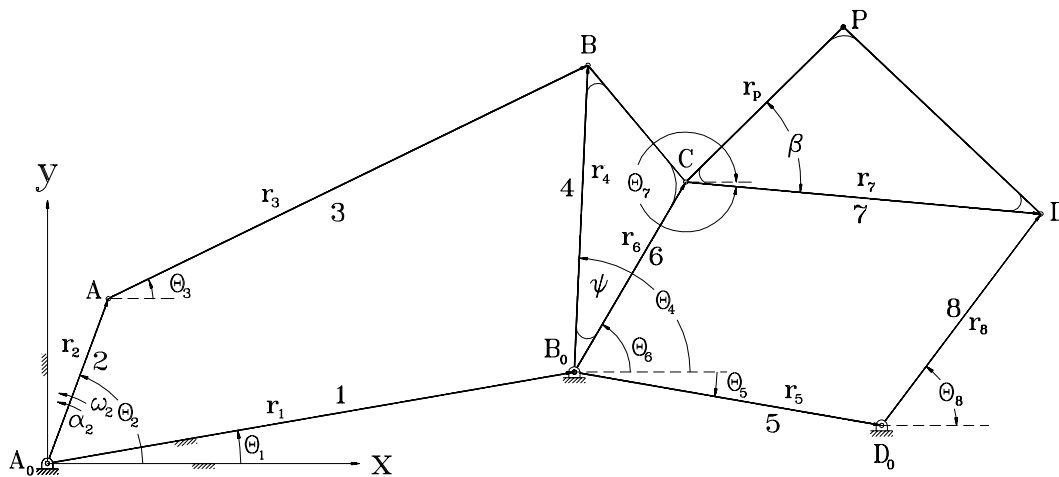

Figure 5.14: Watt (II) Sixbar Linkage
5.3 Watt Six-bar (II) Linkage
A Watt (II) sixbar linkage is from two fourbar mechanisms where the output link of the first fourbar is also the input link of the second fourbar linkage. For the Watt (II) linkage in Figure 5.14, note that there is also a coupler point located on the floating link of the second fourbar linkage.
Problem 2: For the Watt (II) sixbar in figure 5.14 with parameters: $r_1 = 12\text{cm}$, $r_2 = 4\text{cm}$, $r_3 = 12\text{cm}$, $r_4 = 7\text{cm}$, $r_5 = 7\text{cm}$, $r_6 = 5\text{cm}$, $r_7 = 8\text{cm}$, $r_8 = 6\text{cm}$, $r_p = 5\text{cm}$, $\theta_1 = 10^\circ$, $\theta_2 = 70^\circ$, $\theta_5 = -10^\circ$, $\omega_2 = 10^\circ/\text{sec}$, $\alpha_2 = 0$, $\beta = 45^\circ$, and $\psi = 30^\circ$, determine the position, velocity, and acceleration of the coupler point.